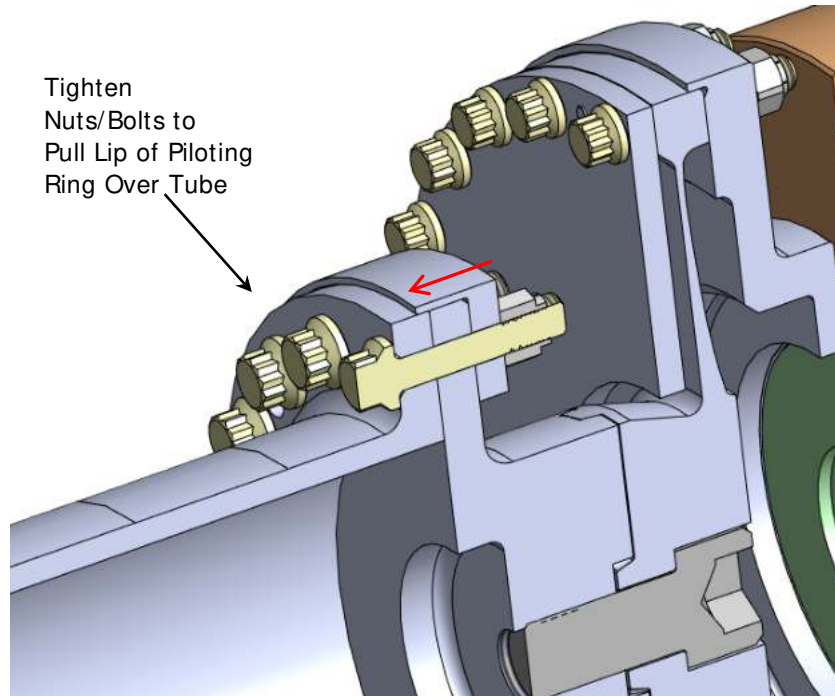

Figure 13 – Piloting Ring Fit Over Tube OD
4.2.3 While supporting the weight of the tube, tighten the bolts/nuts a few turns at a time in a criss-cross pattern to draw the piloting ring over the tube flange evenly (see Figure 13). Install the remaining bolts and nuts and torque evenly in a criss-cross pattern to the torque shown on drawing HC-9722.